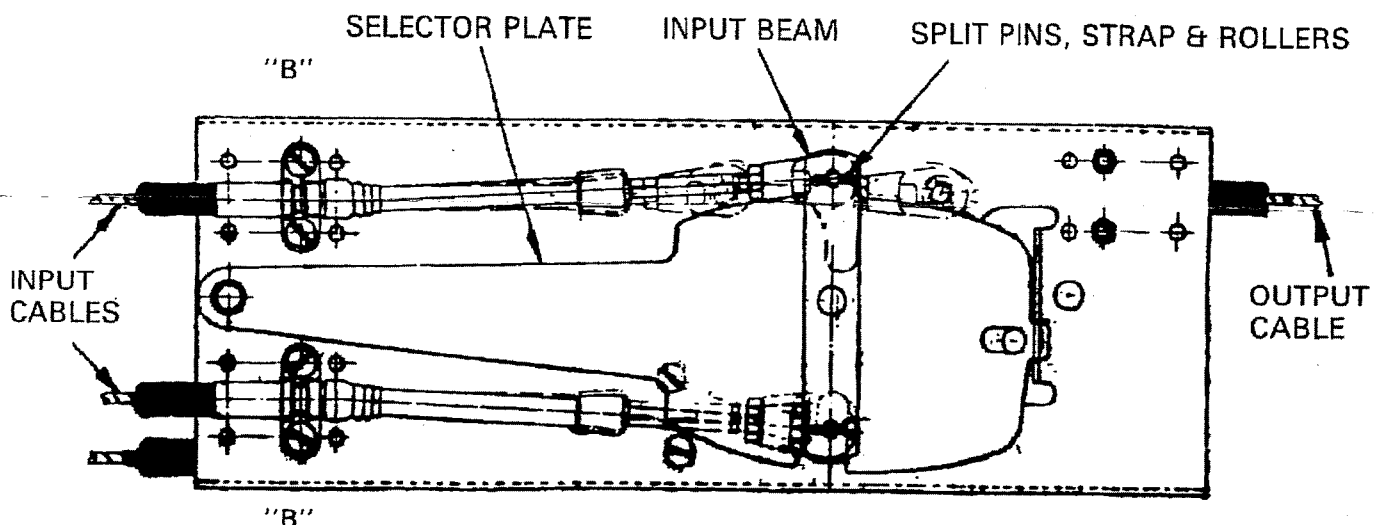
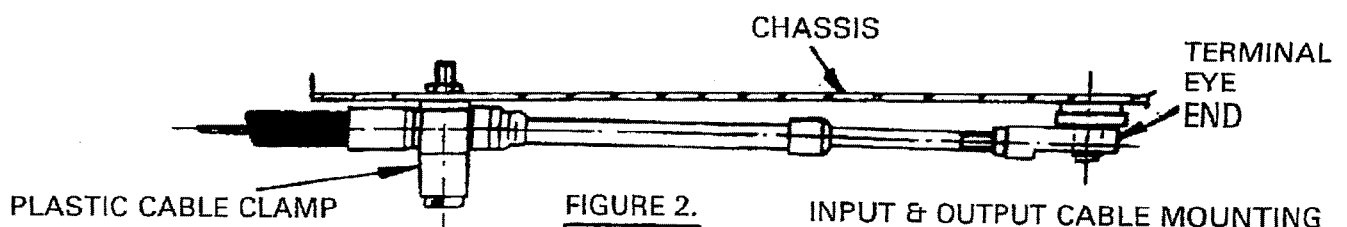
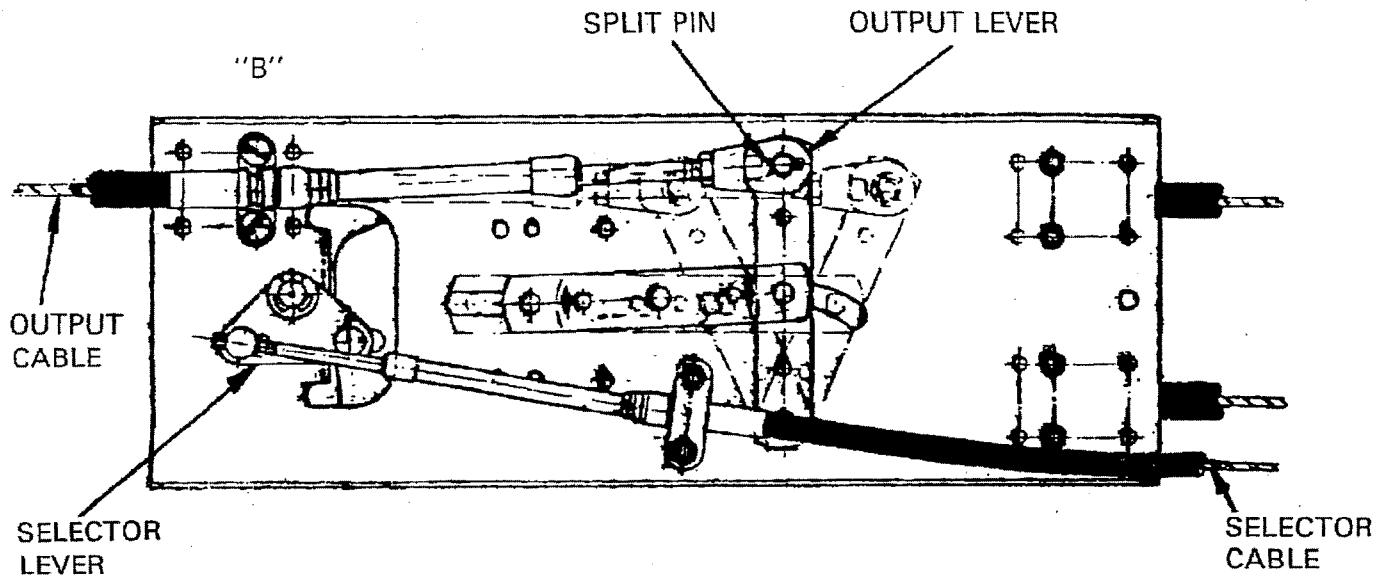

FIGURE 1. FRONT VIEW OF UNIT IN NEUTRAL POSITION
FIGURE 2. INPUT & OUTPUT CABLE MOUNTING
FIGURE 3. REAR VIEW OF UNIT IN NEUTRAL POSITION
When used with Single Lever Controls to operate GEAR, mount the cables in positions marked "B" on the chassis as shown in figures 1 & 3.
Remove split pins, strap and rollers figure 1.
Secure cable hubs to unit using plastic cable clamps, pan head M5 screws and nuts provided, in position "B" figure 1 and as shown in figure 2.
3. Lock the input beam using two 5 mm dia. pins (not included) in the neutral (central) position as shown in figure 1, enter pins from the rear of the unit.
Secure cable hub to unit using plastic cable clamp, pan head M5 screws and nuts provided, in position "B" figure 3 and as shown in figure 2.
5. Route selector cable to unit shown in figure 3. (Selector control head see separate instructions).
Secure cable hub to unit using plastic cable clamp, countersunk head M5 screws and nuts provided, in position as shown in figures 3 and 4.
Connect cable to selector lever in position as shown in figure 3 and secure with split pin.